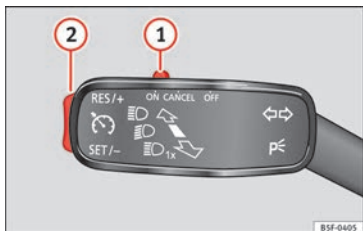

Fig. 47 On the left of the steering column: switches and controls for operating the CCS
- Switching on the CCS: Move switch »» Fig. 47 ① to **ON**. The system is on. If no speed has been programmed, the system will not control it.
- Activating the CCS: Press button »» Fig. 47 ② in the **SET/-** area. The current speed is memorised and controlled.
- Temporarily switching off the CCS: Move switch »» Fig. 47 ① to **CANCEL** or push the brake. The cruise control system is switched off temporarily.
- Reactivating the CCS: Press button »» Fig. 47 ② in **RES/+**. The memorised speed is saved and controlled again.
- Increasing stored speed during CCS regulation: press button ② in **RES/+**. The vehicle accelerates until the new stored speed.
- Reducing stored speed during CCS regulation: press button ② in **SET/-** to lower the speed by 1 km/h (1 mph). Speed is reduced until reaching the new stored speed.
- Switching off the CCS: Move switch »» Fig. 47 ① to **OFF**. The system is disconnected and the memorised speed is deleted.